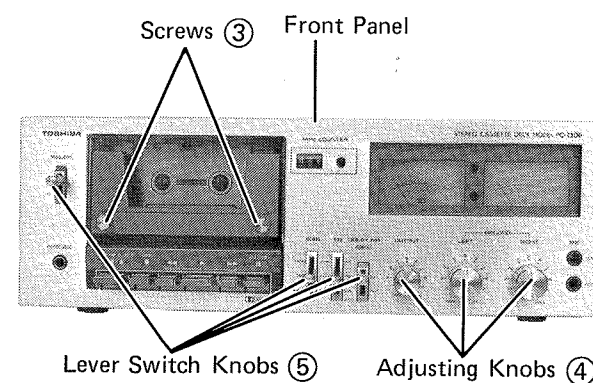

Figure 5.
2. Remove two screws ③. See figure 5.
3. Pull out the three adjusting knobs ④. See figure 5.
4. Pull out the four lever switch knobs ⑤. See figure 5.